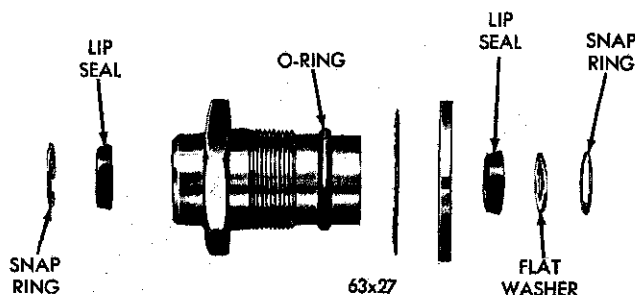

Fig. 45—Piston Guide Nut Assembly (Disassembled)
(1) In the counterbore in the front (small) end of the bushing, install a new lip seal, with the lip out, and a Truarc snap ring. (Refer to Fig. 45.)
(2) Install the lock washer, the thick spacer washer and a new "O" ring on the outside of the bushing.
(3) In the counterbore in the rear (large) end of the bushing install a new lip seal, with the lip in, the flat washer and the Truarc snap ring.
(4) Install a new rubber washer in the bore of the slave cylinder end cap and a new copper washer over the threaded end of the cap against the hex.
(5) Install the end cap assembly, tightening it securely. Install the tube elbow in the end cap, and the two bleeder screws in the slave cylinder housing.
(7) Install a new seal in the counterbore in the hub of the piston flange.
(8) With a rotating motion install the control valve assembly in the control valve housing.
(9) Install the air check valve spring and poppet, with a new "O" ring on the poppet.
(10) Install the control valve cover on the housing, aligning the scribe marks and tighten the four retaining screws.
(11) Install the breather cap and retaining ring in the control valve cover.